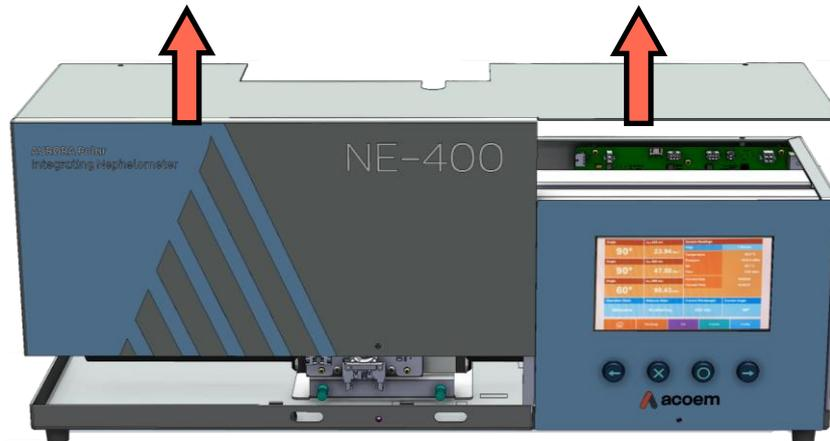

Figure 35 – Removing the Lid
4. Lift the lid vertically and evenly upwards until it is clear of the chassis, refer to Figure 35.